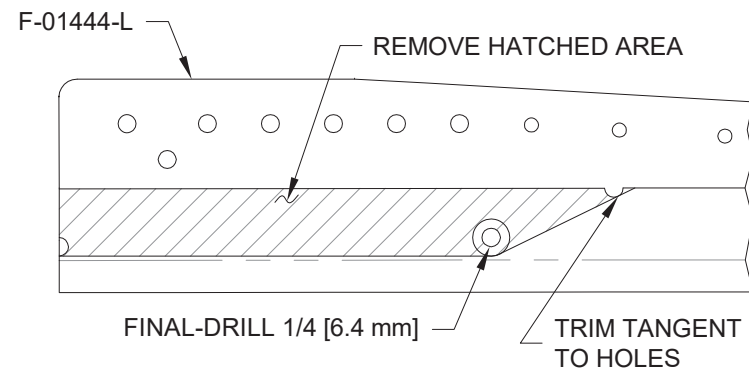

FIGURE 1: TRIM F-01444-L LONGERON (FORWARD END, TOP VIEW)
Step 1: Final-Drill and trim the F-01444-L Longeron as shown in Figure 1 and Figure 3.